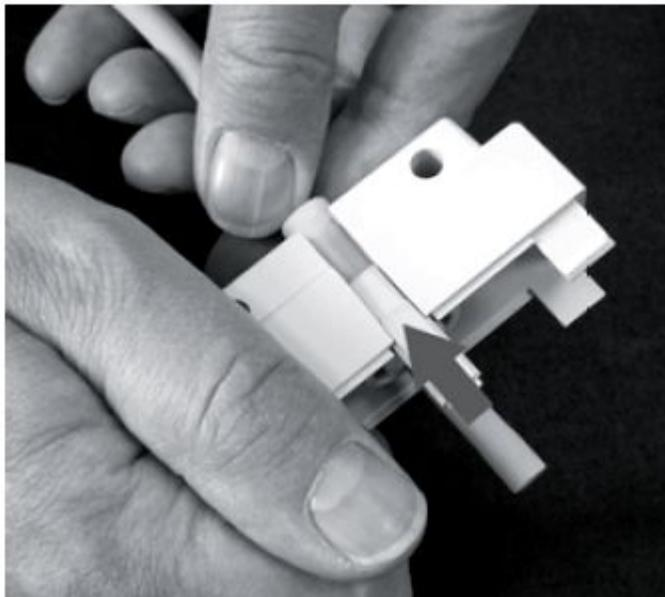

Figure 9
- Insert the new air tube in the cover as shown in figure 9.